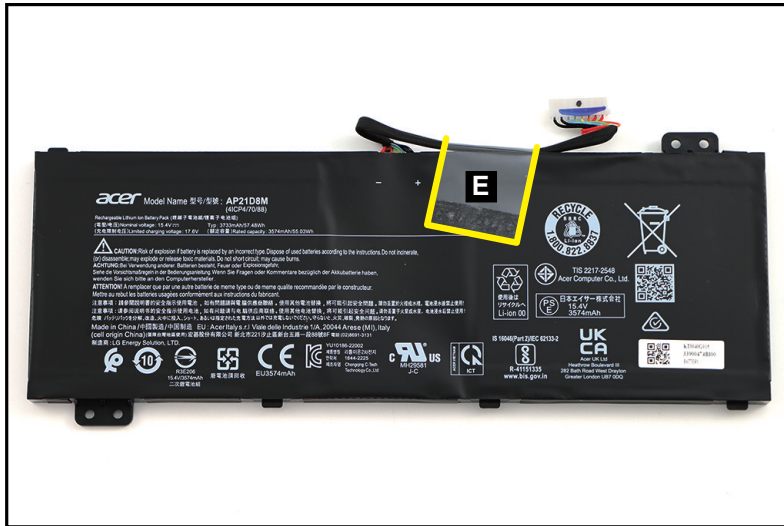

Figure 1-9. Battery Pack Removal
- Detach another mylar (E) securing the battery cable in place (Figure 1-9).